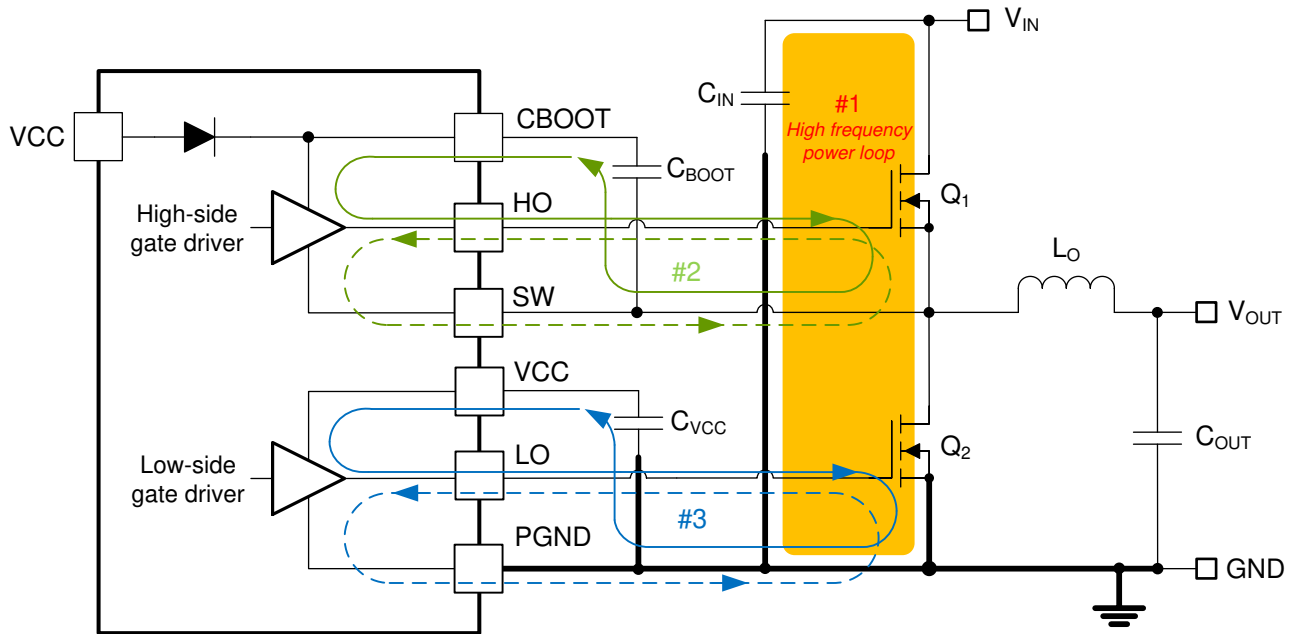

Figure 9-35. DC/DC Regulator Ground System With Power Stage and Gate Drive Circuit Switching Loops
Proper PCB design and layout is important in a high-current, fast-switching circuit (with high current and voltage slew rates) to achieve a robust and reliable design. As expected, certain issues must be considered before designing a PCB layout using the LM25148-Q1. The high-frequency power loop of a buck regulator power stage is denoted by loop 1 in the shaded area of Figure 9-35. The topological architecture of a buck regulator means that particularly high di/dt current flows in the components of loop 1, and reducing the parasitic inductance of this loop by minimizing the effective loop area becomes mandatory. Also important are the gate drive loops of the high-side and low-side MOSFETs, denoted by 2 and 3, respectively, in Figure 9-35.
- Loop 1: The most important loop area to minimize is the path from the input capacitor or capacitors through the high- and low-side MOSFETs, and back to the capacitor or capacitors through the ground connection. Connect the input capacitor or capacitors negative terminal close to the source of the low-side MOSFET (at ground). Similarly, connect the input capacitor or capacitors positive terminal close to the drain of the high-side MOSFET (at VIN). Refer to loop 1 of Figure 9-35.
- The SW pin connects to the switch node of the power conversion stage and acts as the return path for the high-side gate driver. The parasitic inductance inherent to loop 1 in Figure 9-35 and the output capacitance (C_{OSS}) of both power MOSFETs form a resonant circuit that induces high frequency (greater than 50 MHz) ringing at the SW node. The voltage peak of this ringing, if not controlled, can be significantly higher than the input voltage. Make sure that the peak ringing amplitude does not exceed the absolute maximum rating limit for the SW pin. In many cases, a series resistor and capacitor snubber network connected from the SW node to GND damps the ringing and decreases the peak amplitude. Provide provisions for snubber network
- Loop 2: high-side MOSFET, Q_1 . During the high-side MOSFET turn-on, high current flows from the bootstrap (boot) capacitor through the gate driver and high-side MOSFET, and back to the negative terminal of the boot capacitor through the SW connection. Conversely, to turn off the high-side MOSFET, high current flows from the gate of the high-side MOSFET through the gate driver and SW, and back to the source of the high-side MOSFET through the SW trace. Refer to loop 2 of Figure 9-35.
- Loop 3: low-side MOSFET, Q_2 . During the low-side MOSFET turn-on, high current flows from the VCC decoupling capacitor through the gate driver and low-side MOSFET, and back to the negative terminal of the capacitor through ground. Conversely, to turn off the low-side MOSFET, high current flows from the gate of the low-side MOSFET through the gate driver and GND, and back to the source of the low-side MOSFET through ground. Refer to loop 3 of Figure 9-35.